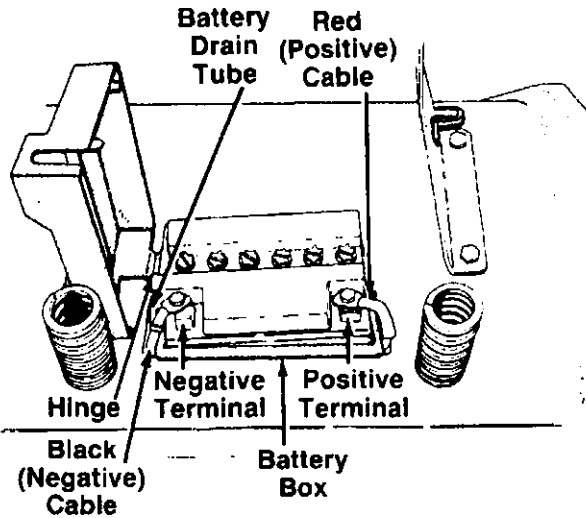

FIGURE 3.
← 1. Raise the seat bracket (on top of the fenders). Push any electrical wires out of the way so they are not disconnected when installing the battery box. Place the plastic battery box into the opening beneath the seat bracket. The hinge on the battery box goes toward the left side of the unit. Snap the battery box in place so the retaining edges on the box are beneath the fender. Make certain the battery cables are routed up along each side of the box. See figure 3.
2. Place the battery inside the battery box so that the positive terminal is toward the right side of the unit. See figure 3. Route the battery drain tube down beside the battery box.
3. Slide the hex nut (provided with battery hardware) into the positive (+) terminal. Place the positive (heavy red wire) cable on the positive terminal. Secure with bolt provided. See figure 3. Slide the rubber boot over the positive terminal.